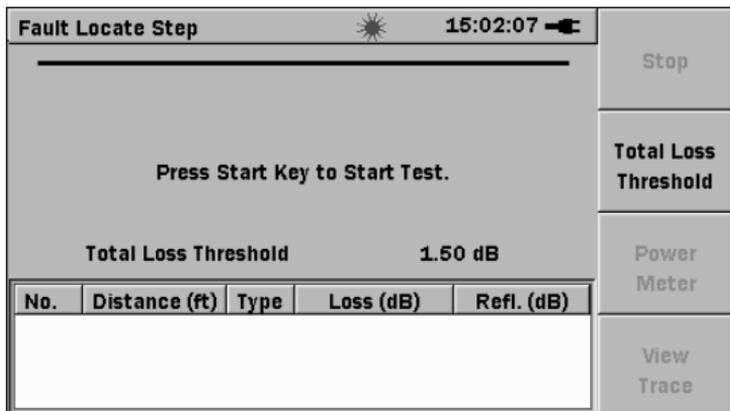

Figure 3-6: VFL Laser On Icon – Fault Locate Step Screen
4. Highlight the desired operating mode: **CW** (Continuous Wave) or **MOD** (Modulated) and then press the **Set key**. The flashing red VFL Laser On icon appears at the top of the screen when the VFL's visible laser diode is operating. See Figure 3-6 on page 3-8.